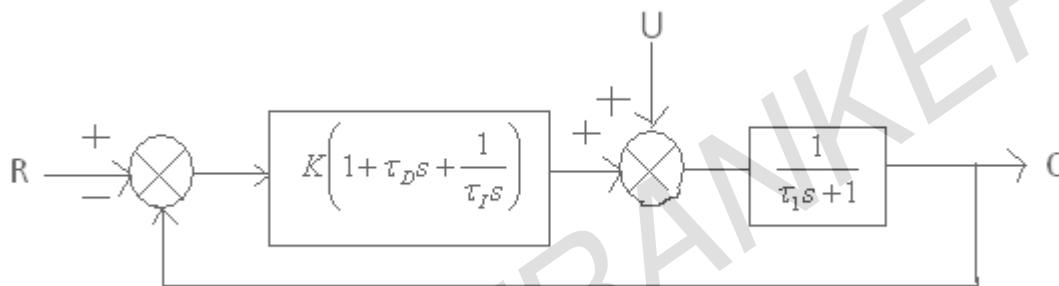

Figure 6:
4. A control system shown below figure 6 contains a three-mode controller.